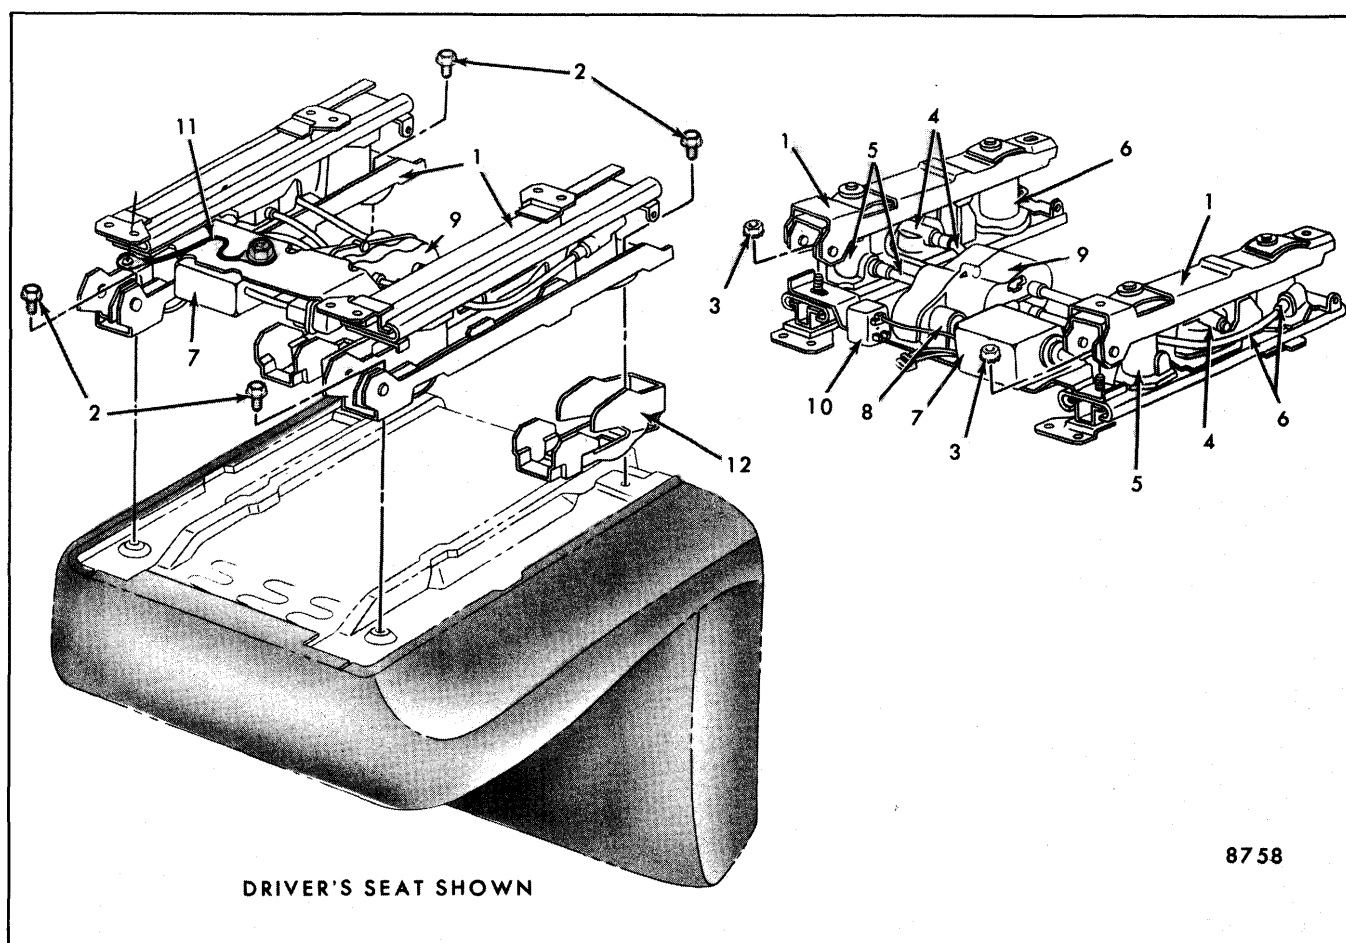

Fig. 9-4-Driver's Seat Power Operated Six-Way Seat Adjusters
connectors under seat, also make sure ground wire is secured under seat adjuster rear attaching bolt or nut as shown in Figures 9-4 and 9-5.
Removal and Installation - Refer to Fig. 9-4
2. On side from which adjuster is being removed, remove motor and transmission support nut and adjuster-to-seat bottom frame front and rear attaching bolts (see "3" and "2" in Fig. 9-4).
2. Disconnect motor feed wires from motor control relay (see 10 in Fig. 9-4).
Removal and Installation - Refer to Figs. 9-4 and 9-9